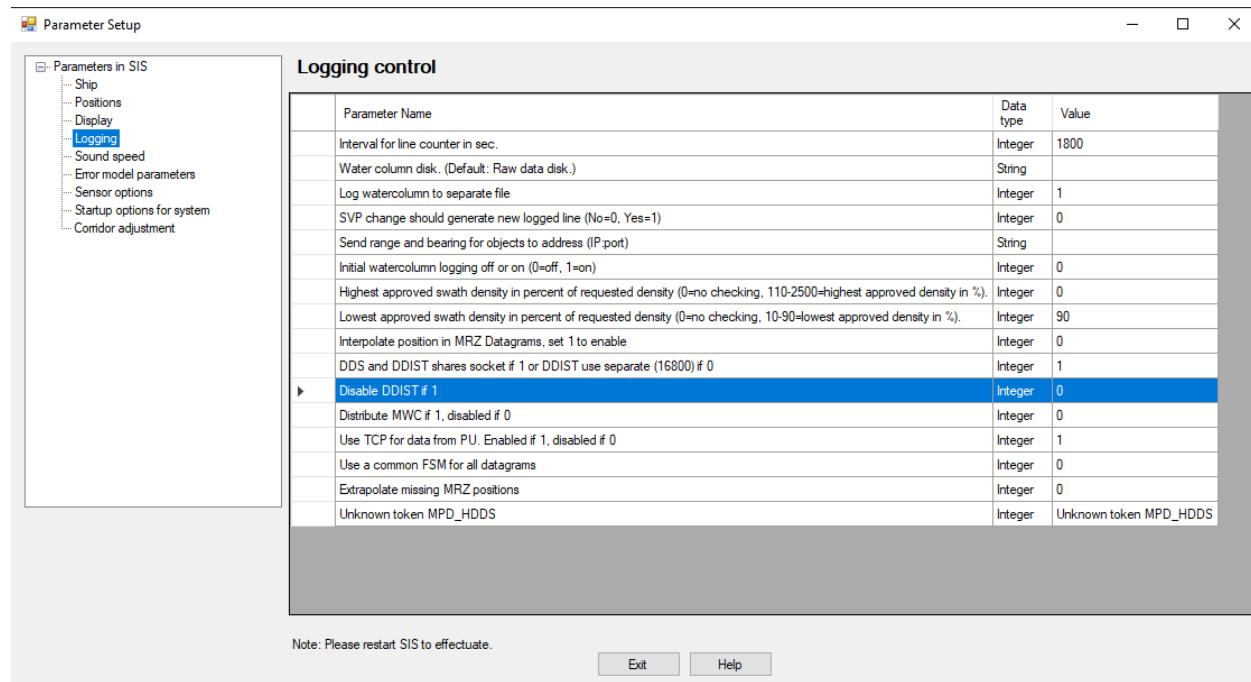

Fig. 2.20: The ‘*Disable DDIST if 1*’ entry under *Tools in Parameter Setup/Logging*.
- Under *Tools* in *Parameter Setup/Logging*, locate the *Disable DDIST if 1* entry (see Fig. 2.20).